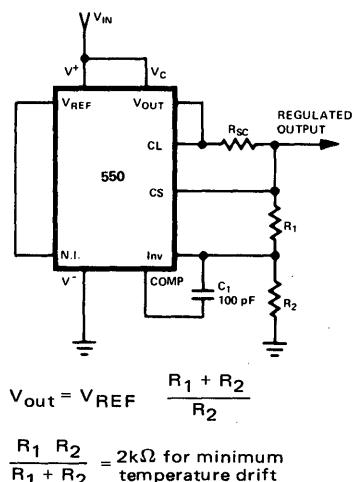

FIGURE 1
- Unless otherwise specified, $T_A = 25^\circ\text{C}$, $V_{in} = V^+ = V_c = 12\text{V}$, $V^- = 0\text{V}$, $V_{out} = 5\text{V}$, $I_L = 1\text{mA}$, $R_{SC} = 0$, $C_1 = 100\text{pF}$, and divider impedance as seen by error amplifier $\simeq 2k\Omega$ when connected as shown in Figure 1.